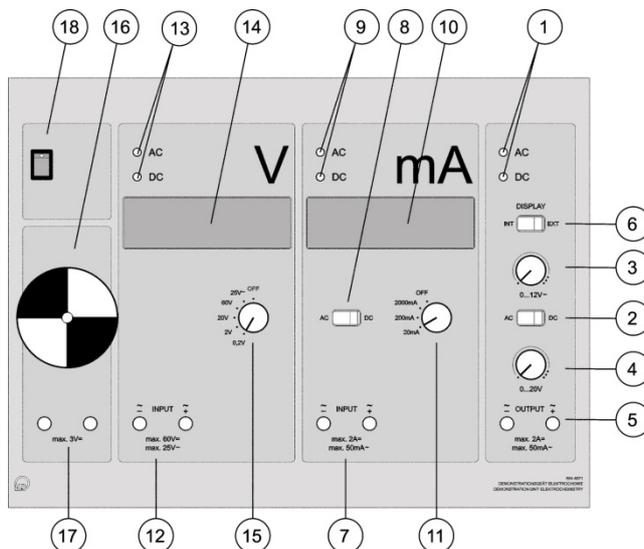

Fig. 3: Sketch of the demonstration unit.
Connect the outlet jacks of the power supply (5) (see Fig. 3) to the electrodes using the connecting leads. Nickel is connected to the positive outlet and iron is connected to the negative outlet. Set the selector switch (6) to internal power source. Set the changeover switch (2) to direct current (DC) on the power supply. Also set the changeover switch (8) and rotary controller (15) to direct current (DC). Turn on the measurement display using the changeover switch (8).